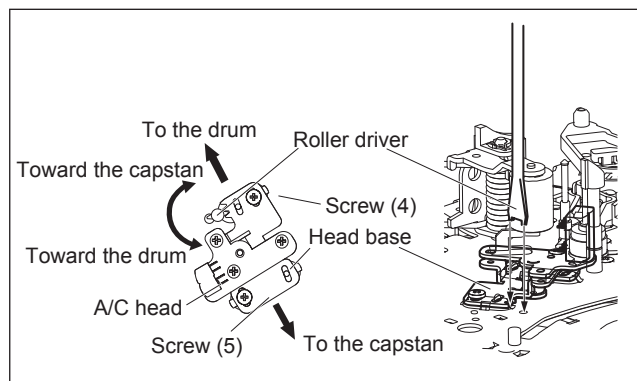

Fig.4-2e
- Apply the external trigger signal to D.FF (E), to observe the V.PB FM waveform at the measuring point (D).
- Loosen the screws (4) and (5), then set the Roller driver to the innermost projected part of the A/C head. (See Fig. 4-2e.)
- Rotate the roller driver so that the A/C head comes closest to the capstan. From there, move the A/C head back gradually toward the drum until the point where the FM waveform is maximized for the second time, and then tighten the screws (4) and (5) temporarily.
- Fine-adjust A/C head base position to maximize the FM waveform, and then tighten the screws (4) and (5) firmly.